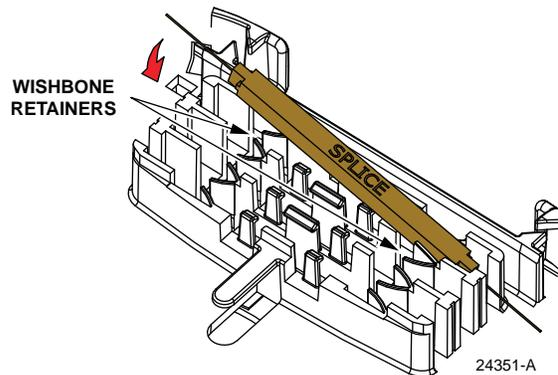

Figure 37. Mounting Splice Chips
- Mount the splice chips within the splice tray as shown in Figure 37.